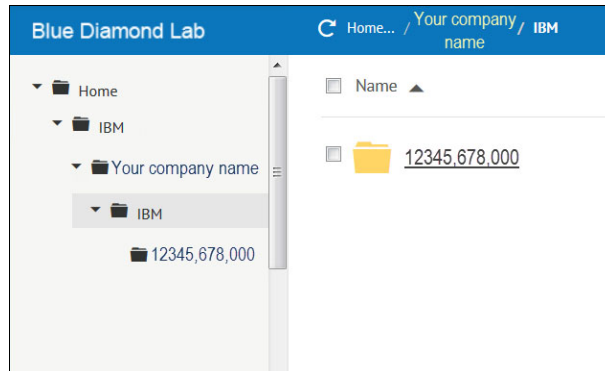

Figure 7-13 Sub-folder with PMR number
5. Create a sub-folder with the name of your PMR number (Example, 12345,678,000) (Figure 7-13).